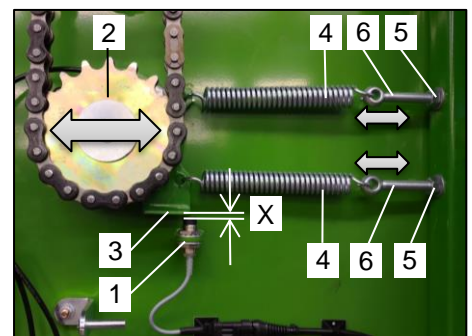

Fig. 2: Sensor settings
The Sensor (Fig. 2 / Pos. 1) on the lower dosing roller (Fig. 2 / Pos. 2) is deactivated. The dosing roller (Fig. 2 / Pos. 2) is located in the forward most position. Taking into account the distance "X" between sensor (Fig. 2 / Pos. 1) and signal transmitter (Fig. 2 / Pos. 3) the spring force in the tension springs (Fig. 2 / Pos. 4) is adjusted. The following applies:
- Loosen the two nuts (Fig. 2 / Pos. 5).
- Adjust the spring force of the tension springs (Fig. 2 / Pos. 4) by turning the screws (Fig. 2 / Pos. 6) in or out. Ensure that both screws (Fig. 2 / Pos. 6) are adjusted equally.
- Retighten the two nuts (Fig. 2 / Pos. 5).
If the distance "X" between the sensor (Fig. 2 / Pos.1) and the signal transmitter (Fig. 2 / Pos.3) is to be adjusted, observe instructions the operating instructions in the chapter "Function and Settings" in the "Electric" / "Sensor Setting" section!